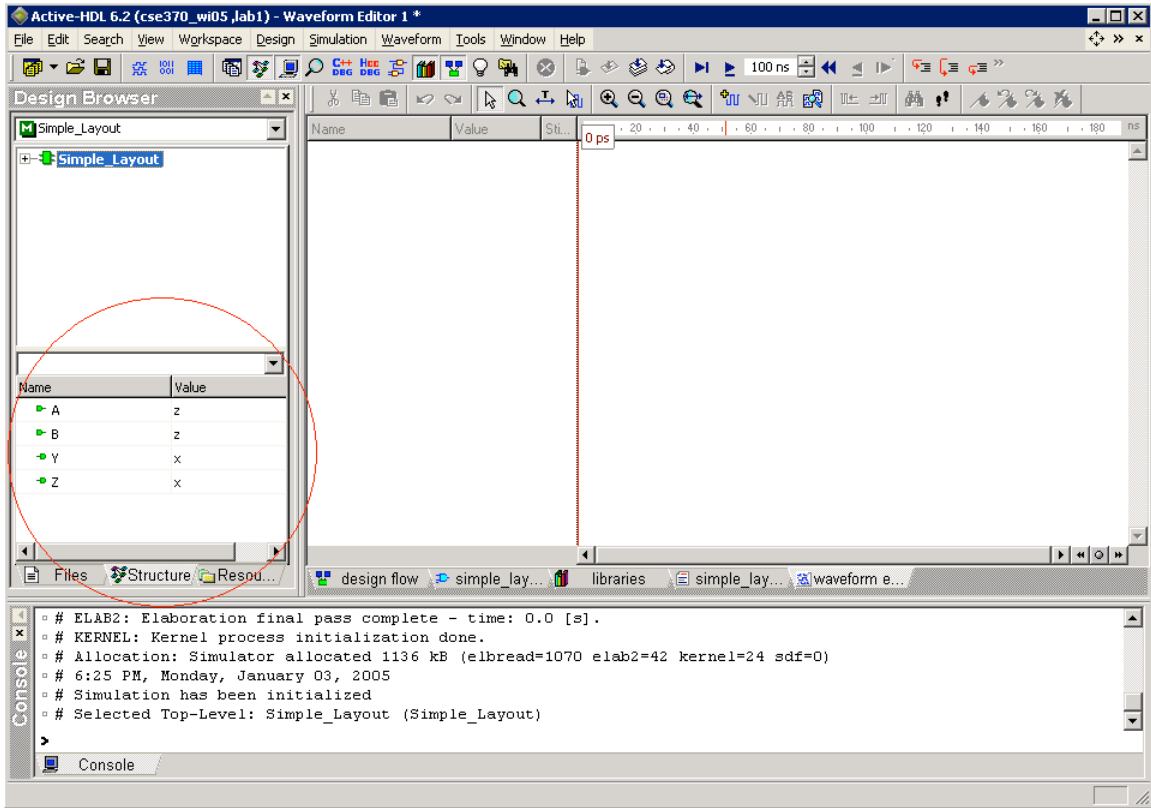

Figure 26
6. Click the file name in the top window in the Design Browser under the Structures tab. Notice in Figure 26 how the signals and wires (Nets) appear in the bottom window of the Design Browser.